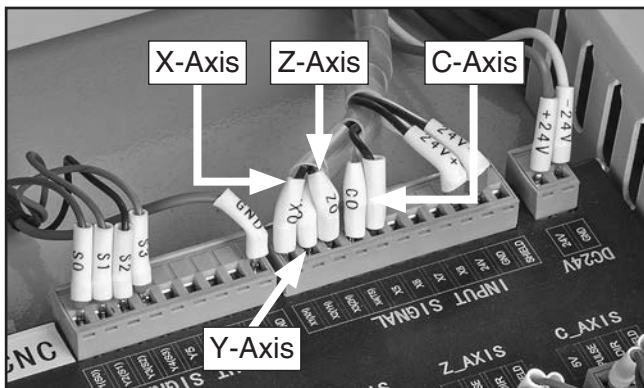

Figure 81. Interface board proximity switch axes.
7. Swap faulty axis proximity switch signal wire on interface board (see **Figure 81**) with any known good axes signal wires (X1=X-axis, X2=Y-axis, X3=Z-axis, X4=C-axis).